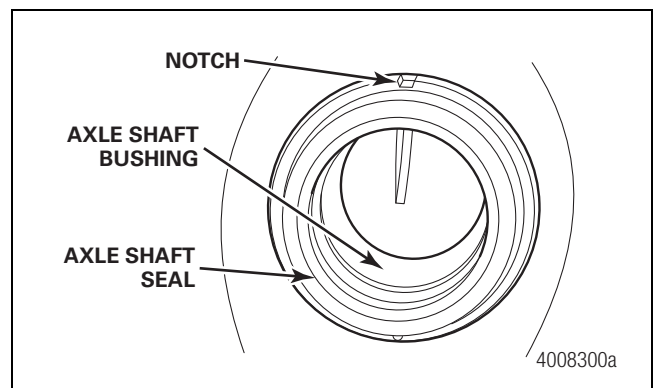

Figure 8.3
3. Place the axle shaft seal in the axle housing with the notch on the seal at the 12 o'clock position. Use seal driver 912078 DET-080 with collar 912078 DET-110 to install the axle shaft seal in the housing. Refer to Section 12 for a tool drawing. Figure 8.3.